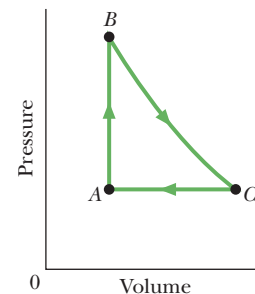

Figure 18-41 Problem 48.
••48 GO As a gas is held within a closed chamber, it passes through the cycle shown in Fig. 18-41. Determine the energy transferred by the system as heat during constant-pressure process CA if the energy added as heat  $Q_{AB}$  during constant-volume process AB is  $20.0$  J, no energy is transferred as heat during adiabatic process BC, and the net work done during the cycle is  $15.0$  J.